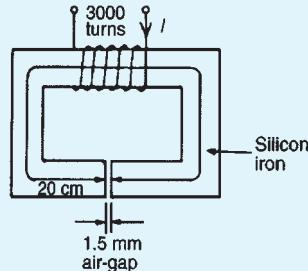

Figure 7.7
4. For the magnetic circuit shown in Fig. 7.7 find the current  $I$  in the coil needed to produce a flux of 0.45 mWb in the air-gap. The silicon